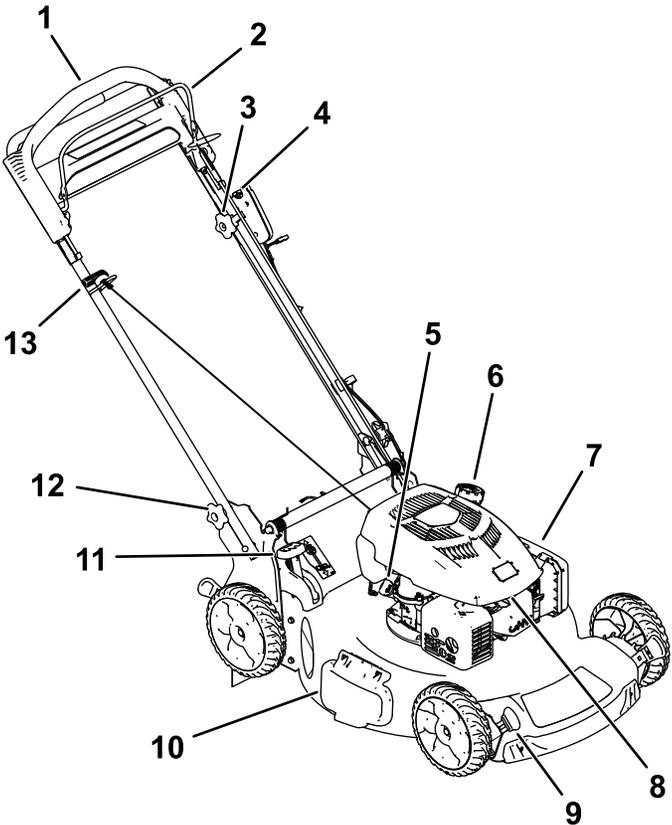

**Figure 11**
2. Hook the bottom channel of the bag onto the bottom of the frame (Figure 11).
3. Hook the top and side channels of the bag onto the top and sides of the frame, respectively (Figure 11).